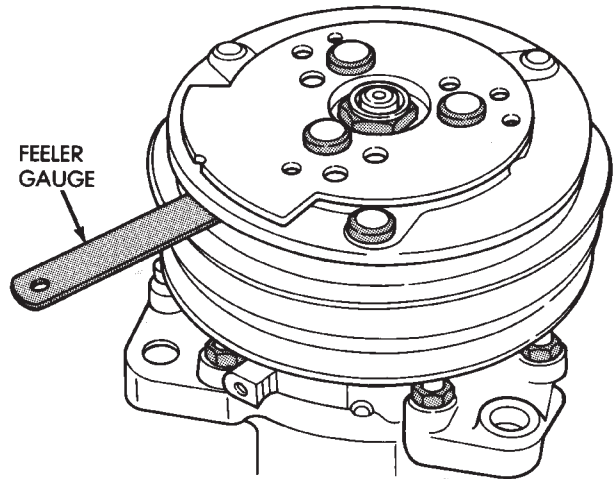

Fig. 15 Check Air Gap
(5) Check the air gap with a feeler gauge (Fig. 15). If the air gap does not meet the specification add or subtract shims as required. The specification is 0.41 to 0.79 mm (0.016 to 0.031 inch). If the air gap is not consistent around the circumference, lightly pry up at the points of minimum variation. Lightly tap down at the points of maximum variation.